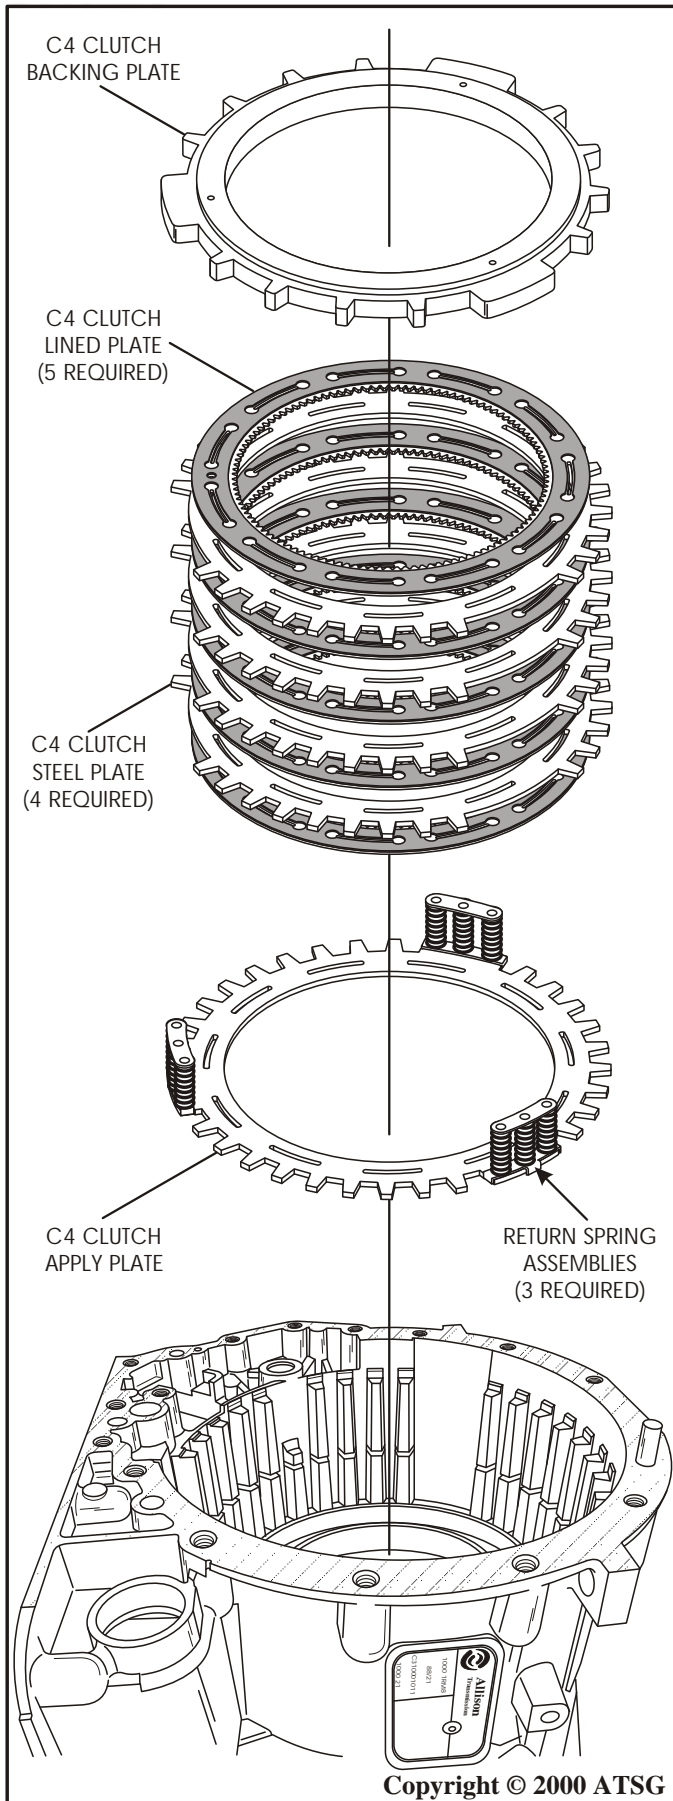

Figure 150
5. Install the three return spring assemblies onto the wide tabs of C4 apply plate and install the apply plate assembly on top of the piston, as shown in Figure 150.
6. Install the C4 clutch pack beginning with a lined plate on top of the apply plate, as shown in Figure 150, and alternating with a steel plate until you have installed the required four steel plates and five lined plates.
7. Install the C4 clutch backing plate into the case in the direction shown in Figure 150.